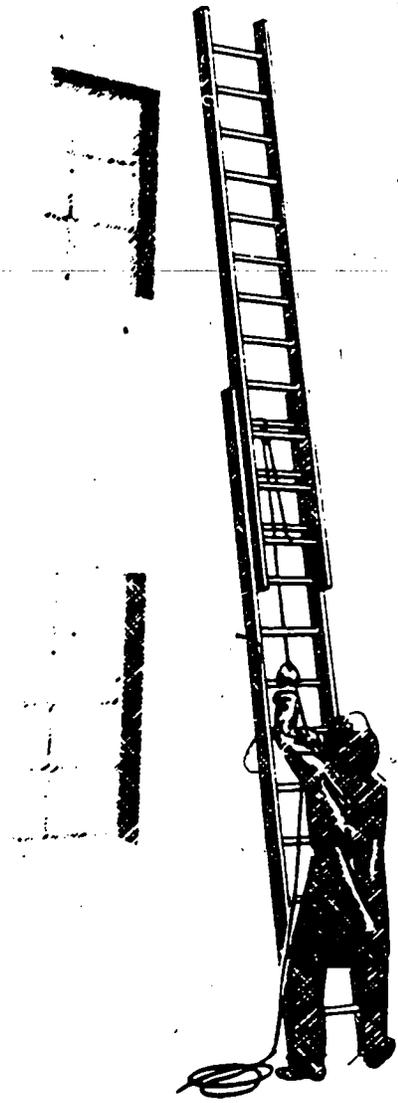

Figure 3-8. One-man raise (extension ladder).
- Step 7* - Place one foot against the side of the beam, steadying the ladder. Let the top of the ladder lean slightly away from you to counteract the pull of the halyard, as shown in figure 3-8.